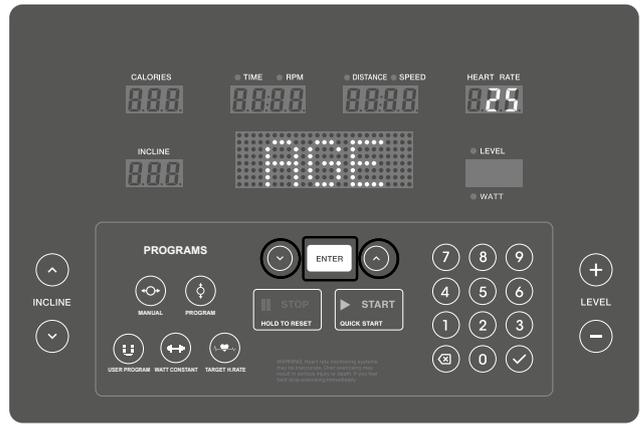

FIGURE 17
3. Set your age using the arrow keys ( $\uparrow/\downarrow$ ) (Figure 17).